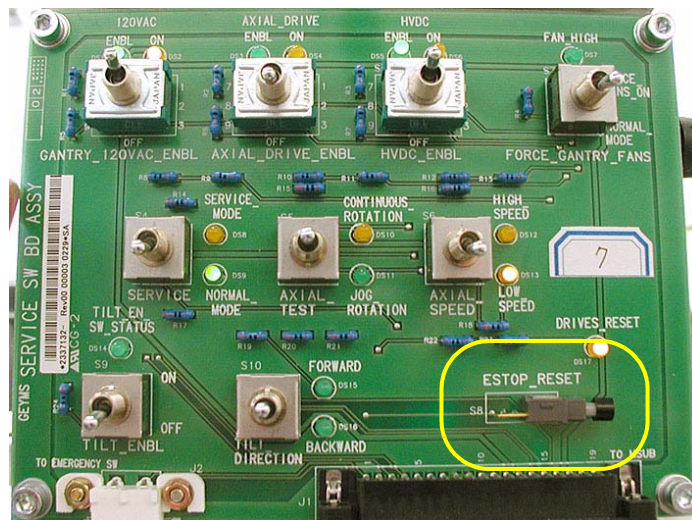

Figure 5-4 Service Switch Panel
- 5.) Push the Service Switch Panel reset button (see Figure 5-4).
11.) Press one of the **RESET** buttons to turn on X-RAY DRIVES POWER. (See Figure 5-4).